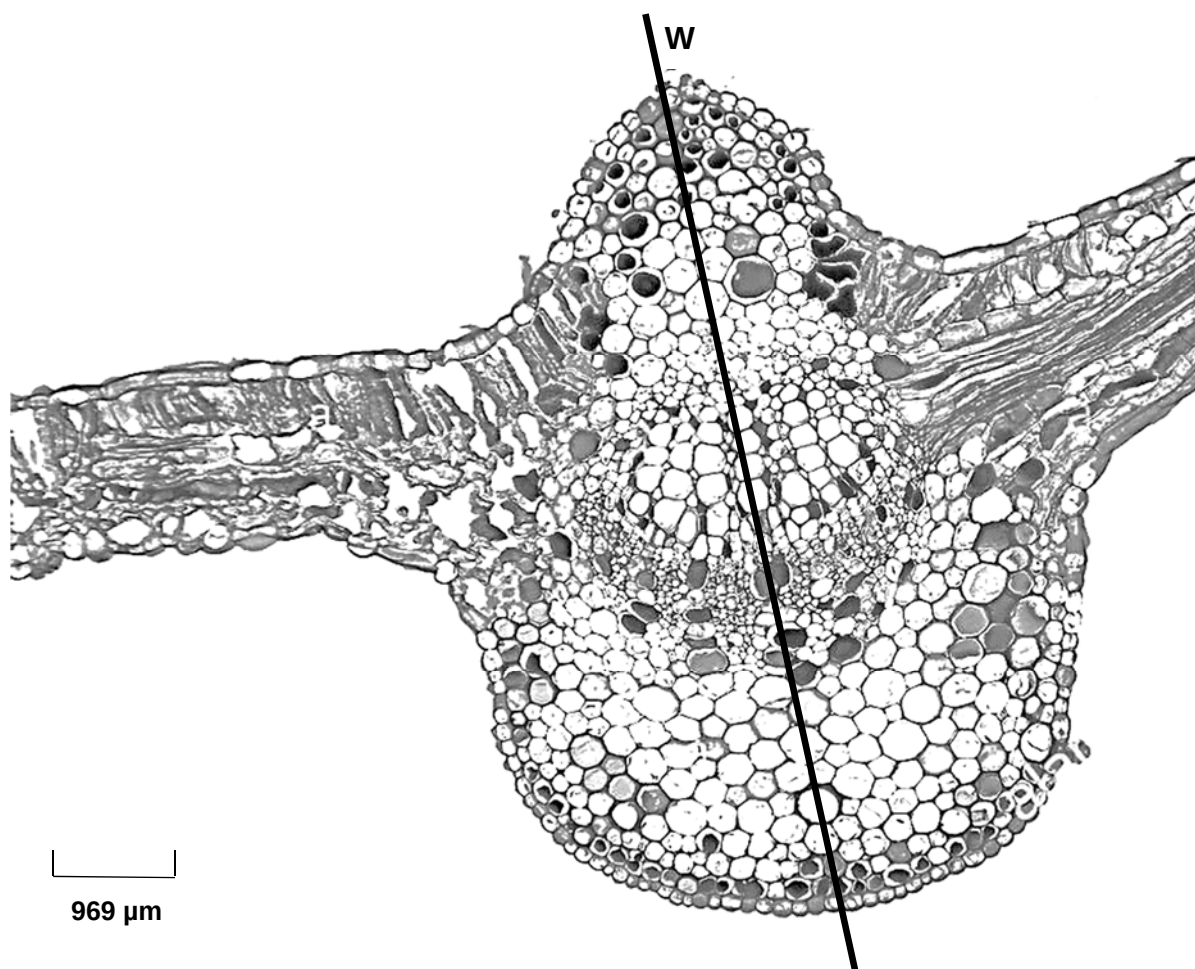
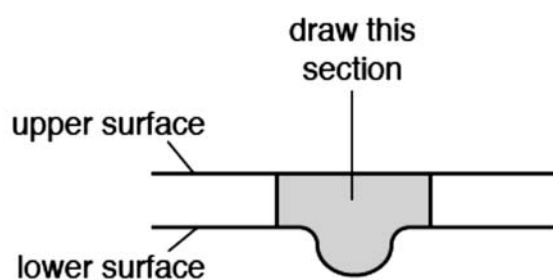

Fig. 3.1
Fig. 3.2
- 3 Fig. 3.1 is a photomicrograph of a stained transverse section through a cotton leaf.
Draw a large plan diagram of the section of the leaf in Fig. 3.1, as shown by the shaded area in Fig. 3.2, in the space provided on page 19. A plan diagram only shows the arrangement of the different types of tissues. Individual cells must **not** be drawn in plan diagrams.
- Observe the cells in **P1** under x400 magnification and the xylem cells in Fig. 3.1 and identify two differences between them.